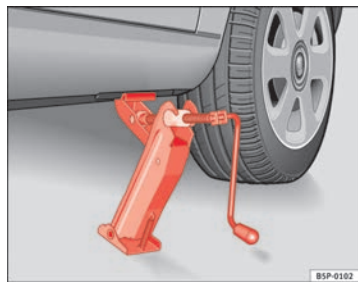

Fig. 179 Fitting the jack
- Align the jack so that the arm of the jack fits around the rib under the door sill and the movable base plate of the jack is flat on the ground ⇒ fig. 179.